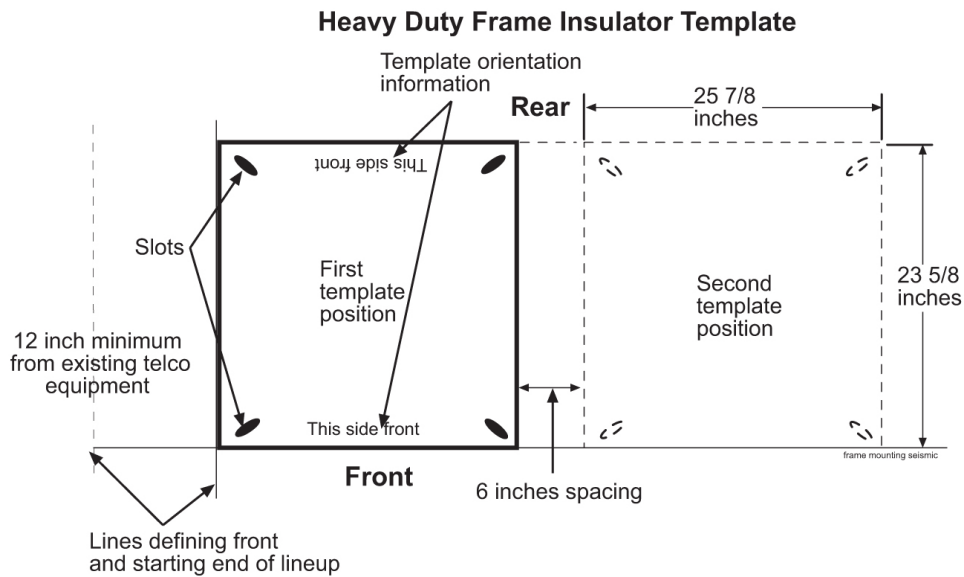

Figure 16: Isolation Sheet/Template for Frame
3. Align the frame isolation sheet/template (refer to Figure 16: Isolation Sheet/Template for Frame) along the chalk line to mark anchor location in the middle of each oval anchor slot and to mark the corners of the first frame.